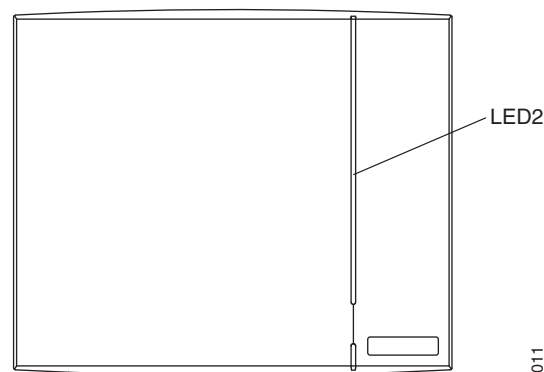
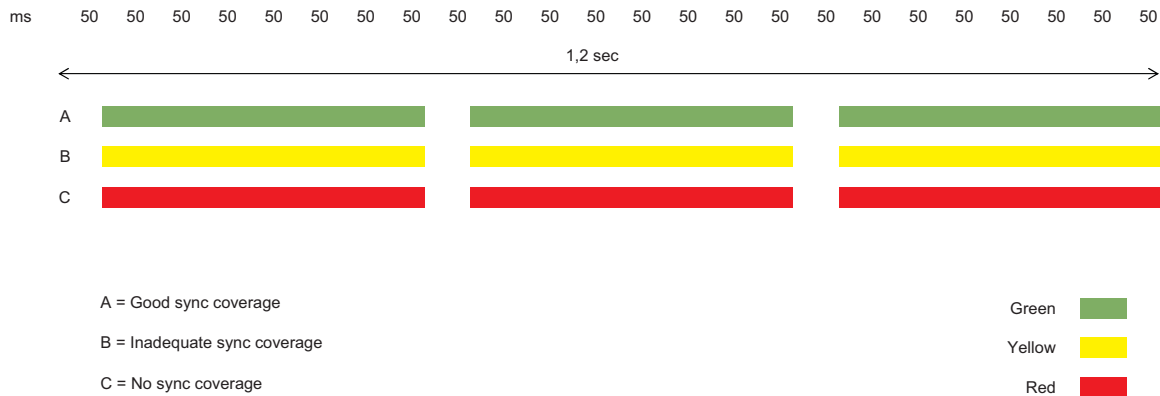

Figure 11. LED2 on the IPBS4x0.
Figure 12. LED2 deployment indications
**For IPBS4x0:** You can also check the synchronization by looking at LED2 (upper LED) on the base station IPBS4x0, see figure 11. For a description of LED2 deployment indications, see the diagram in figure 12 on page 11. When indicating no sync (LED flashing red) it might take some additional time (10 to 30 seconds) to regain synchronization when entering the sync coverage again.